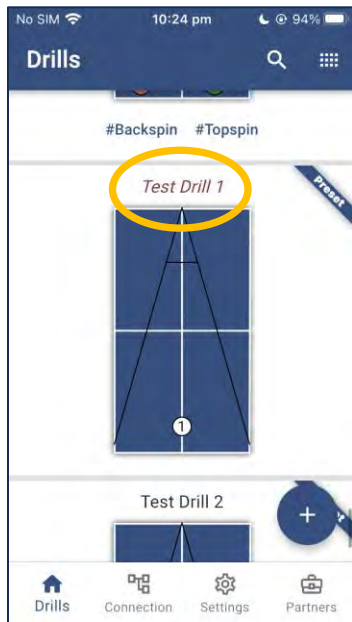
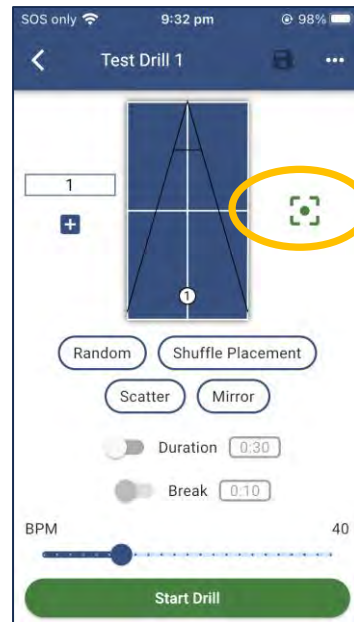

Figure 3-3
Figure 3-4
2. Scroll nearly to the end of the list of Drills and select **Test Drill 1** by pressing **Test Drill 1** (Figure 3-3). You will then be presented with the details of **Test Drill 1** (Figure 3-4).